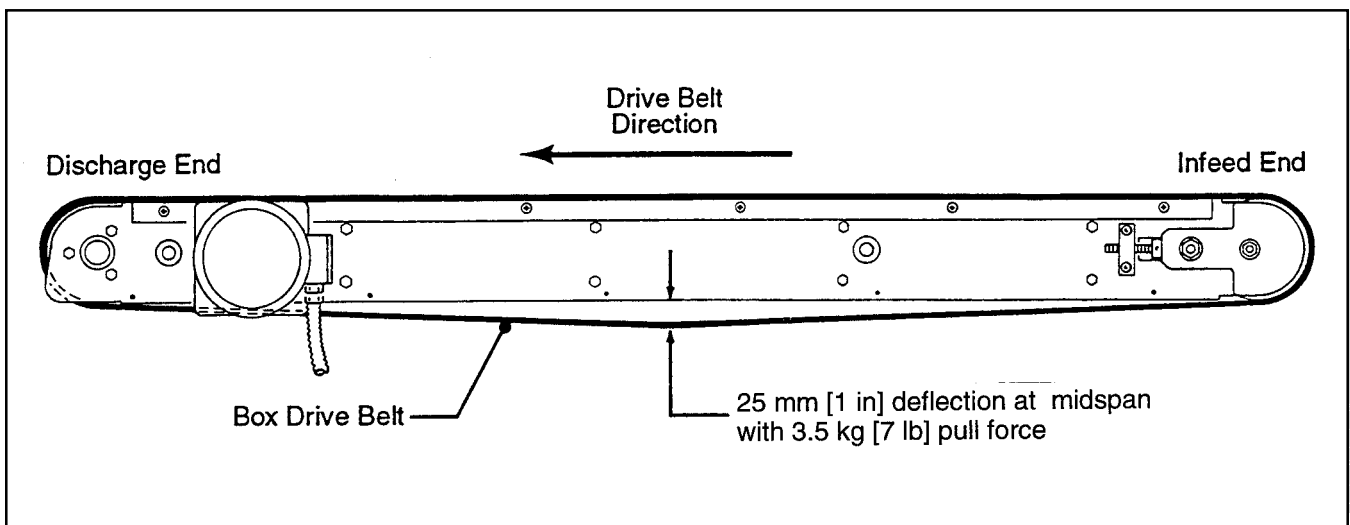

Figure 4-4 – Drive Belt Tension Adjustment (Top View)
10. Set drive belt tension – turn adjustment screws (J) equally on both upper and lower tension assemblies. Turn screws clockwise to reduce belt tension, counterclockwise to increase tension.
Use force gauge to pull belt outward one inch [25 mm] at midspan, as shown in Figure 4-4, with a moderate pulling force of 7 lbs. [3.5 kg]. Tighten lock nuts (H) on both tension assemblies to secure tension setting.